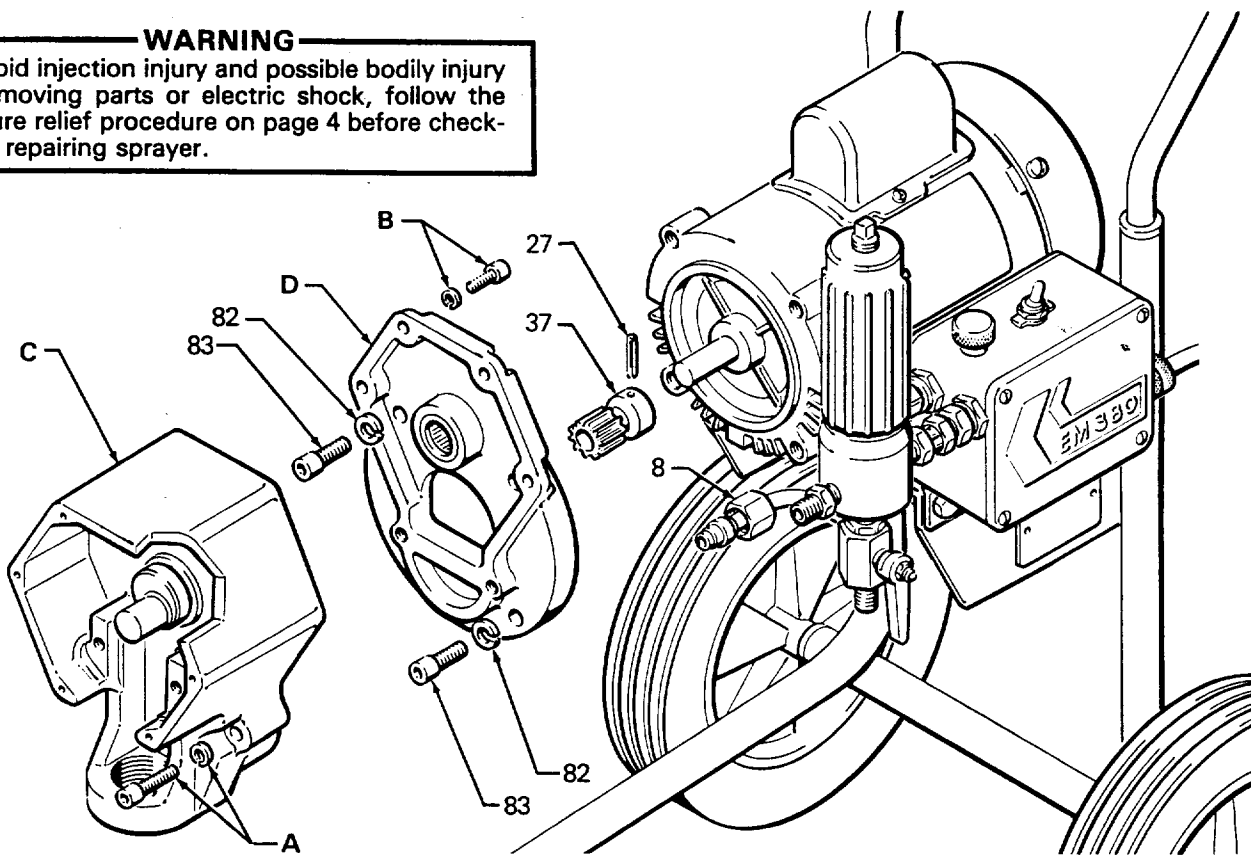

Fig 6
Remove screws and lockwashers (A&B) and remove drive housing (C). Remove screws and lockwashers (82 & 83) and remove motor housing (D). See Fig 6.